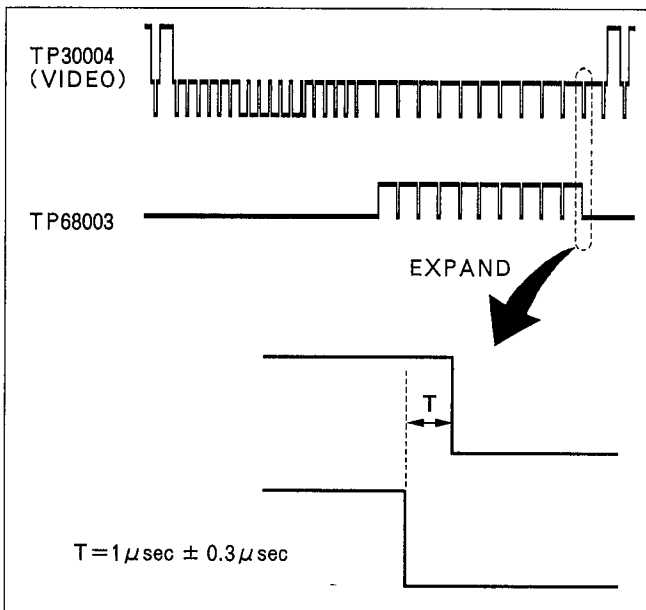

Figure E57
1. Connect a scope to TP3004 for CH-1 and TP68003 for CH-2 and expand V-Sync portion as shown in Figure E57.
2. Adjust VR68001 so that the "T" becomes $1 \mu\text{sec} \pm 0.3 \mu\text{sec}$ as shown in Figure E57.